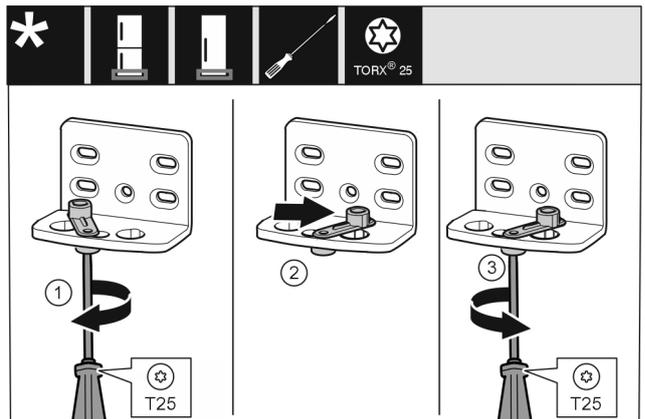

Fig. 15
- ▶ Loosen the screw using a T25 screwdriver. Fig. 15 (1)
- ▶ Lift the door closing aid and turn it 90° to the right in the hole. Fig. 15 (2)
- ▶ Tighten the screw using a T25 screwdriver. Fig. 15 (3)